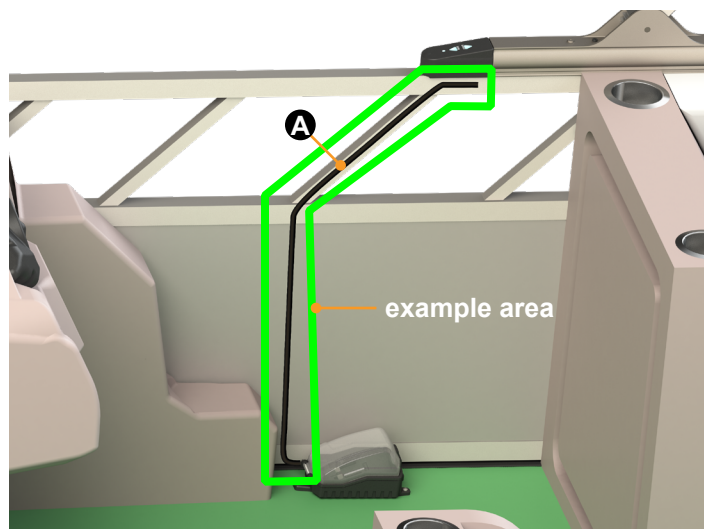

Fig.28
4. Dry-fit the power cord and foam tubing (Fig.28A) from the battery receiver, up the fence, along the side of the railing and through the side wire-access hole to the touch-sensitive controller. See figure 28 for example area.